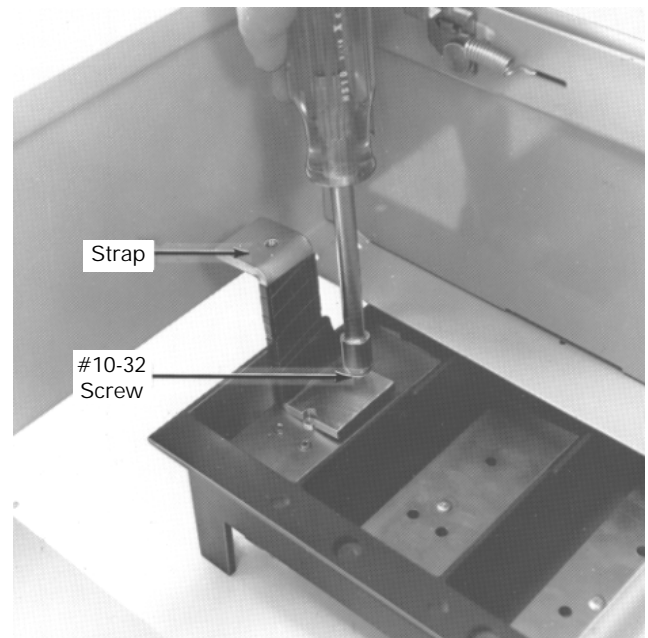

Figure 3. Installing the connecting straps.
3. **Install the straps.** Install the connecting straps with the #10-32 x 1/2" screws provided, as shown in Figure 3. Tighten the screws to 27–32 in-lb.